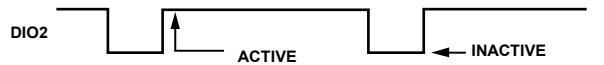

Figure 21. Data Ready, when FNCTIO_CTRL, Bits[3:0] = 1101 (default)
The factory default configuration provides the user with a data ready (DR) signal on the DIO2 pin, which pulses low when the output data registers are updating (see Figure 21). In this configuration, connect DIO2 to an interrupt service pin on the embedded processor, which triggers data collection, when this signal pulses high. Register FNCTIO_CTRL, Bits[3:0] (see Table 144), provides some user configuration options for this function.